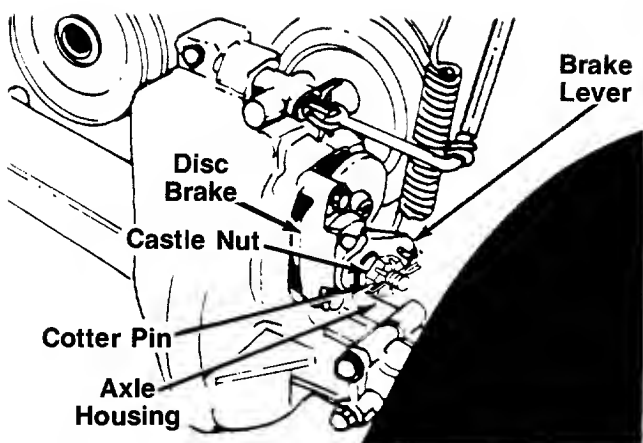

FIGURE 19.
## BRAKE ADJUSTMENT (See figure 19)
**NOTE:** Your brake may be equipped with a lock nut instead of the castle nut and cotter pin shown in figure 19.
**NOTE:** Figure 19 is shown with the unit tipped up on rear wheels for clarity only.